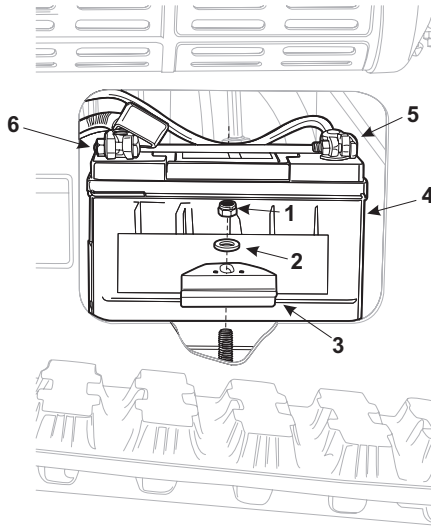

Figure 4-22 Battery and Tie Downs
- c. After the main element is removed, check the condition of the inner element (Item 3, **Figure 4-22**). It should be replaced whenever it appears dirty, typically every other time the main element is replaced. Clean the area around the base of the inner element before removing it, so dirt does not get into the engine.
- a. Check the battery (Item 4, **Figure 4-22**) for signs of leaking electrolyte. If any signs of damage are visible, remove and replace the battery.
- b. To prevent corrosion, spray on a battery protectant and sealer onto both terminals and cable clamps (Items 5, 6, **Figure 4-22**) after cables are installed.